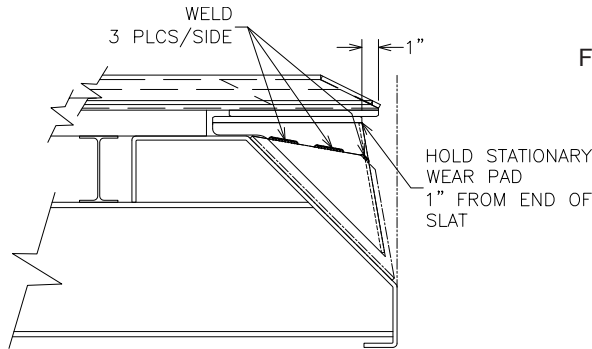

Figure 27
- c. Weld the formed angle mounts to the support assembly, making sure that the wear plates are in contact (Figure 27).